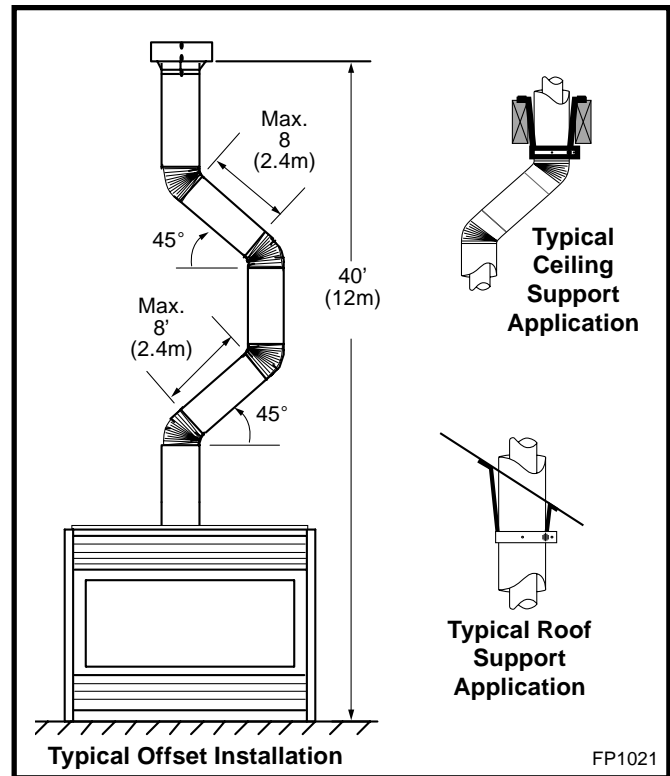

Fig. 31 Typical vertical roof applications.
4. Two sets of 45° elbows offsets within these vertical installations. From 0 to a maximum of 8' (2.4m) of vent pipe can be used between elbows. (Fig. 31)
5. 7DVCS must be used to support offsets. (Fig. 31)